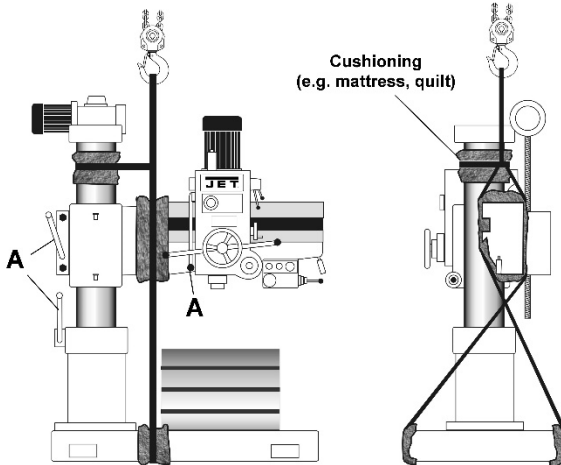

Figure 6-4
2. Make sure locking handles (A, Figure 6-4) on head and column are tightened before lifting.
3. Place lifting straps as shown in Figure 6-4. Use cushioning to protect machine surfaces.